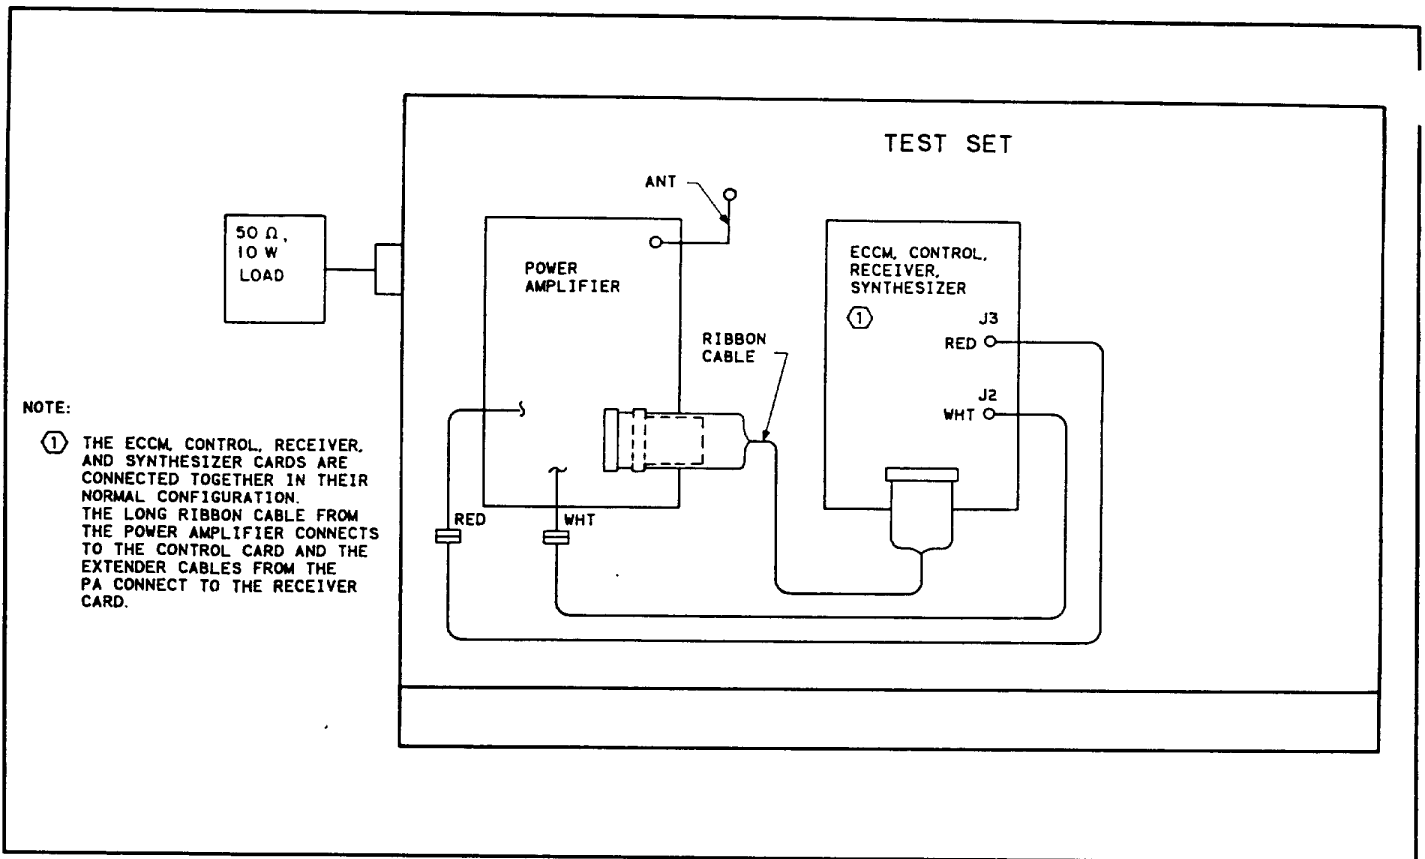

FIGURE 6-2.
1. Test setup	<ul style="list-style-type: none"> a. Remove the ECCM card from the receiver-transmitter. b. Remove the test set ECCM Card and replace it with the receiver-transmitter ECCM Card. c. Connect the receiver-transmitter ECCM card and the test set Control, Receiver, Synthesizer, and Power Amplifier Cards as shown in the test setup diagram, Figure 6-2. d. Terminate the test set output in a 10-watt, 50-ohm load.